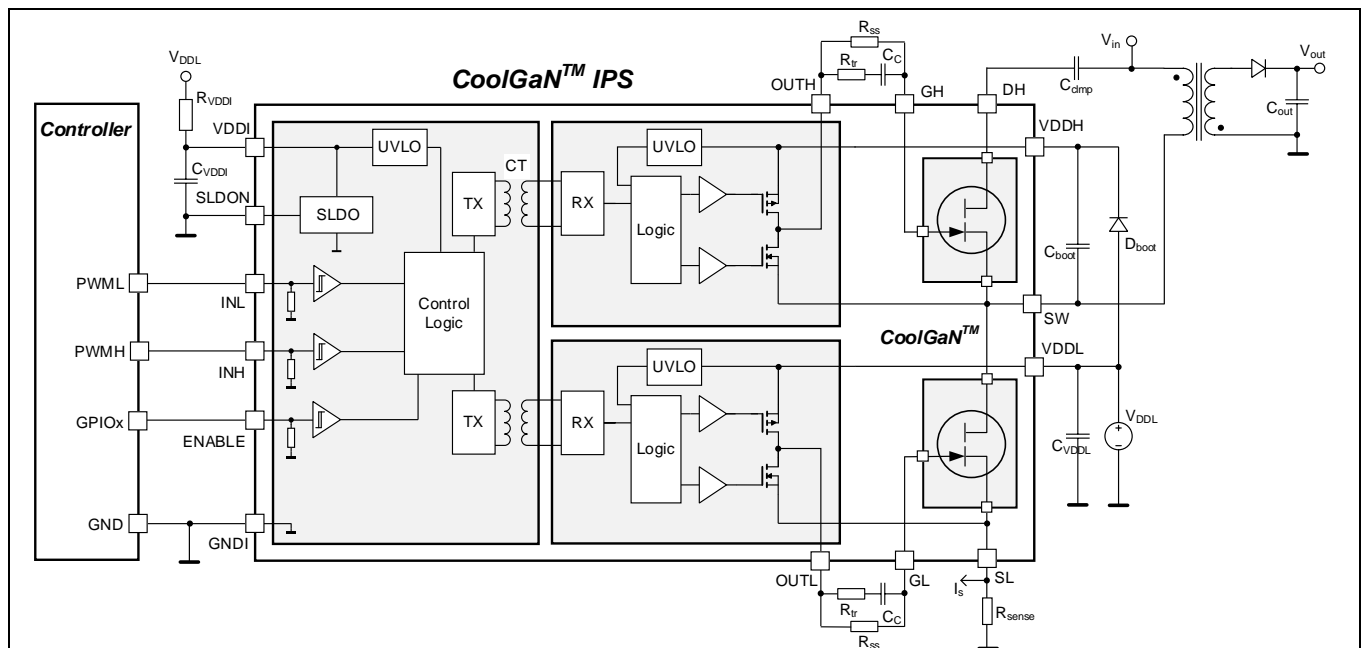
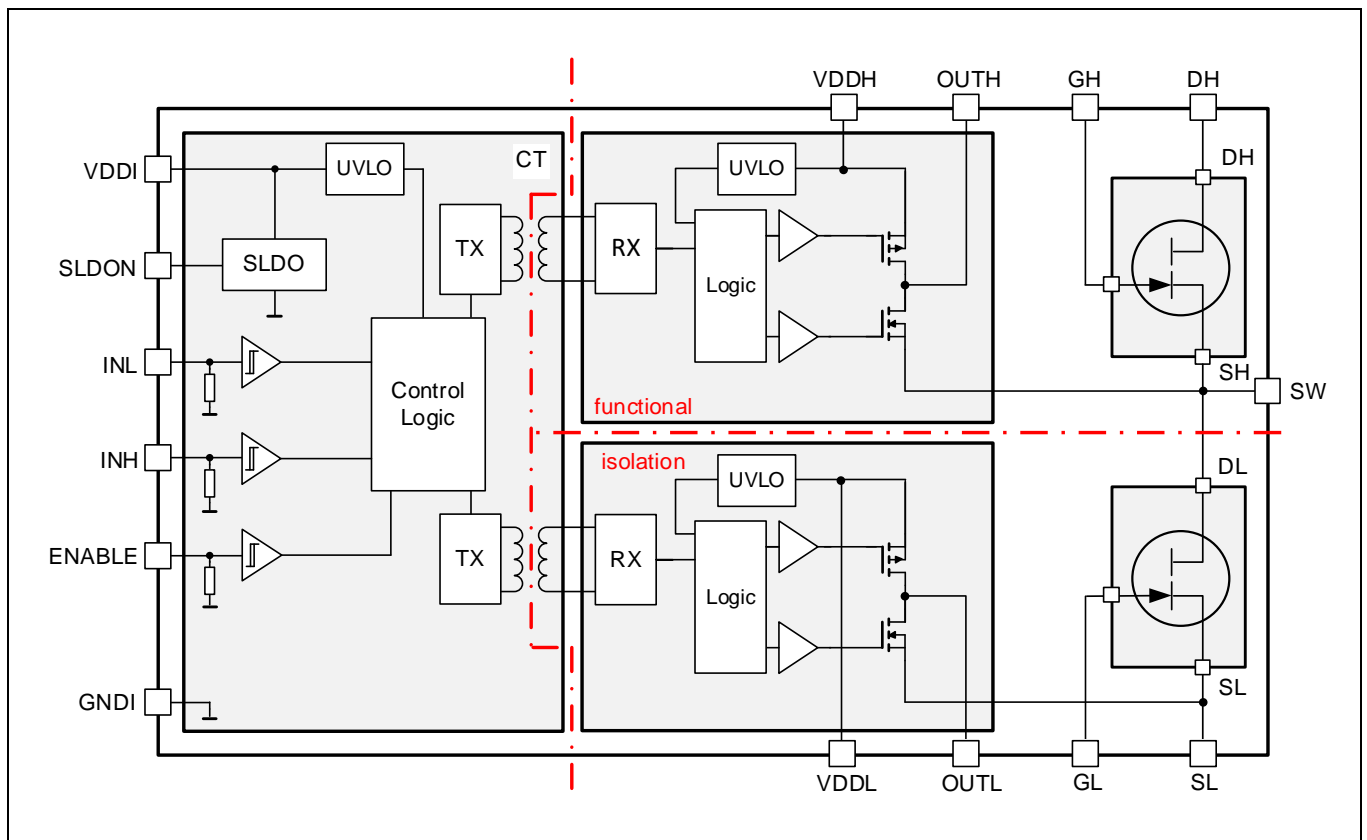

Figure 1 Typical application circuit (active clamp flyback converter)
Figure 3 Block Diagram IGI60F2727A1L
IGI60F2727A1L combines a half-bridge power stage consisting of two 270 mΩ (typ. R_{dson}) / 600 V enhancement-mode CoolGaN™ HEMTs with dedicated gate drivers in a small 8 x 8 mm QFN-28 package. In the low-to-medium power area (example application in Figure 1) it is thus ideally suited to support the design of high-density AC/DC chargers and adapters utilizing the superior switching behavior of CoolGaN™ HEMTs.
A simplified functional block diagram of the CoolGaN™ Power Stage is given in **Figure 3**. For the level-shifting function of the input signal to the high-side switch an on-chip coreless transformer (CT) is utilized. For symmetry reasons a CT is also included in the low-side path, resulting in both a galvanic input-to-output and high-to-low-side isolation. In addition, this CT separates the low-side gate driver reference (SL) from GNDI allowing to use a shunt resistor for current sensing as shown in **Figure 1**.
If no separate 3.3 V supply is available, the input side can also be operated with V_{DDL} (typically 8 V). Then the shunt LDO voltage regulator (SLDO) has to be enabled by connecting pin SLDON (pin#23) to GNDI. The SLDO regulates the current through an external resistor R_{VDDI} connected between V_{DDL} and pin VDDI as depicted in Figure 1 to generate the required voltage drop. For proper operation it has to be ensured that the current through R_{VDDI} always exceeds the maximum supply current I_{VDDI} of the input chip. R_{VDDI} thus has to fulfil: